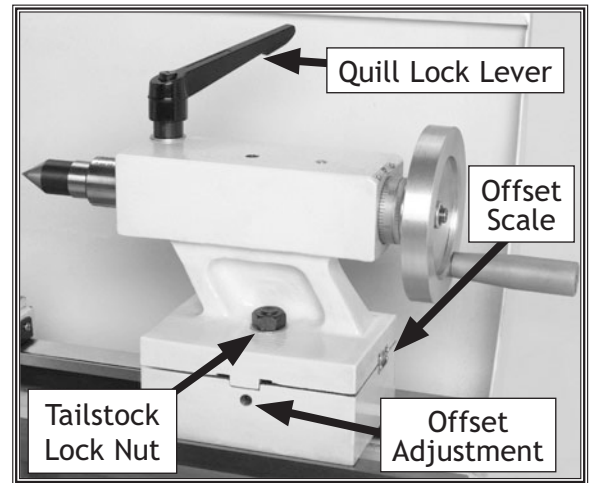

Figure 16. Left offset adjustment.
2. Using a 4mm hex wrench, alternately loosen and tighten the left and right offset adjustment set screws until the desired offset is indicated on the scale (see **Figure 16**).